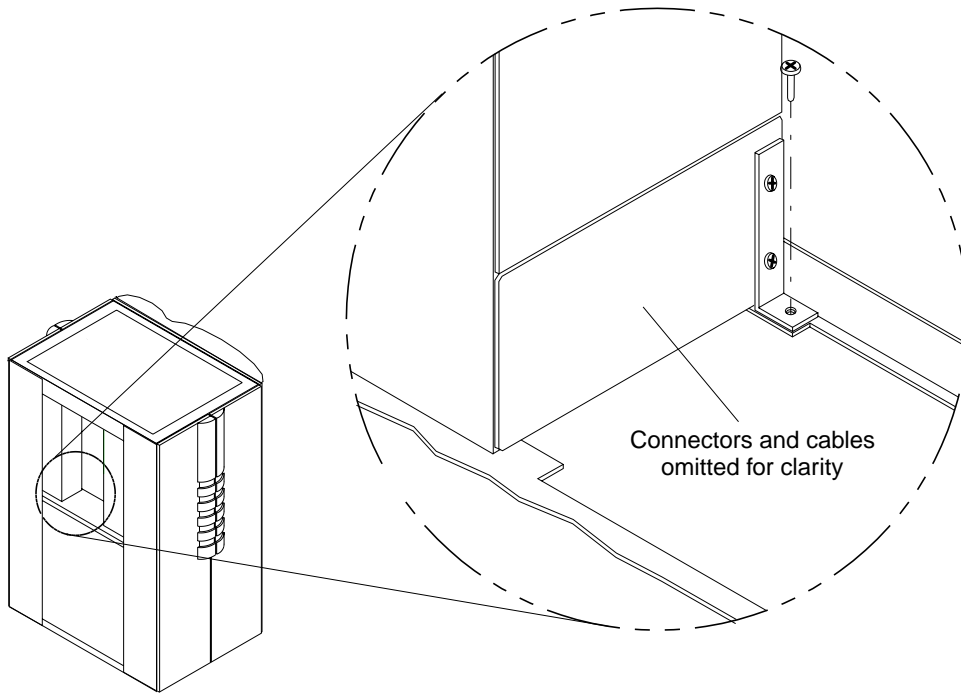

FIGURE 2-1 Removing the Optional Power Shelf Shipping Strap Attachment Screws
- a. **Remove the side panel and remove the screws that fasten the shipping straps to the horizontal rails as shown in FIGURE 2-1.**